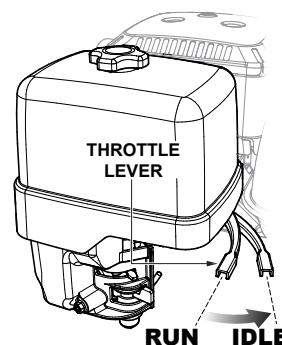

Figure 18. Throttle Lever (Idle)
1. Move the throttle lever to the **idle** position (Figure 18) and run the engine for three minutes at low speed.